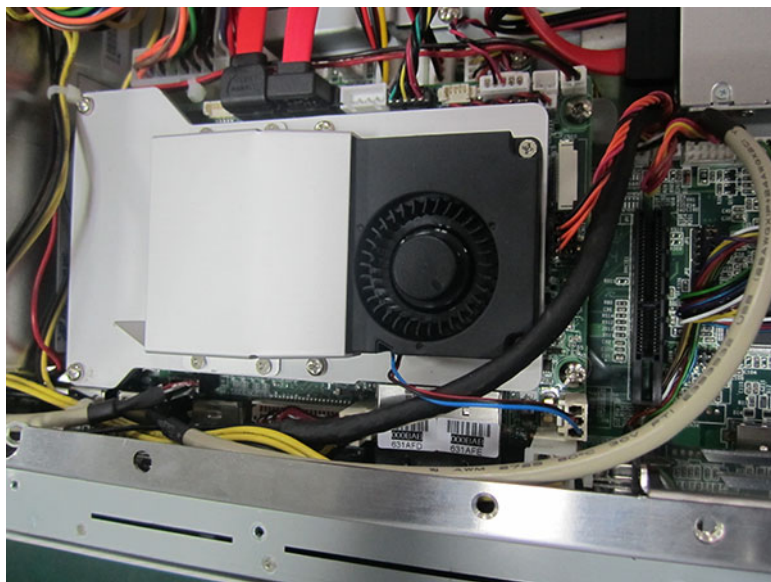

Figure 2.35
4. Reinstall MIO mainboard, lock the screws and return back the cables according to Procedure 3-6, then check if all cables are correctly connected, which is shown as Fig2.35, 2.36 and 2.37 respectively.
5. Lock the cooler onto MIO mainboard and connect the MIO fan cable. (See Fig 2.35)